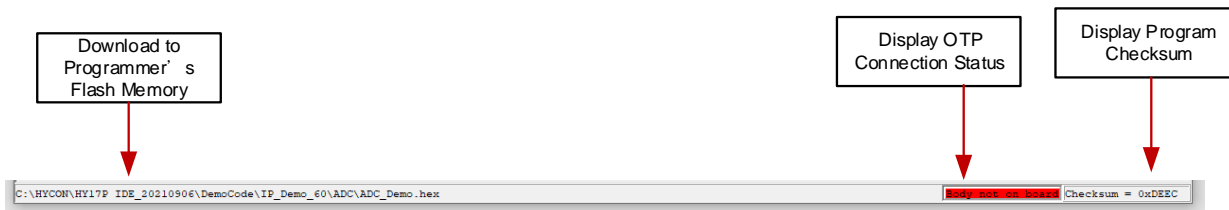

Figure 51
3. After assembling completed, Hex filename and Checksum will be displayed in underneath section, as Figure 51 illustrated.